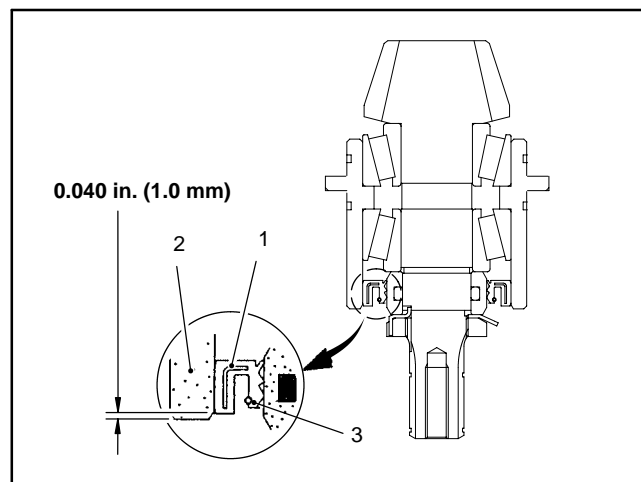

Figure 33
3. Coat a new oil seal with grease and install as shown (Fig. 33). The seal should be installed with the garter spring towards the hydraulic motor.